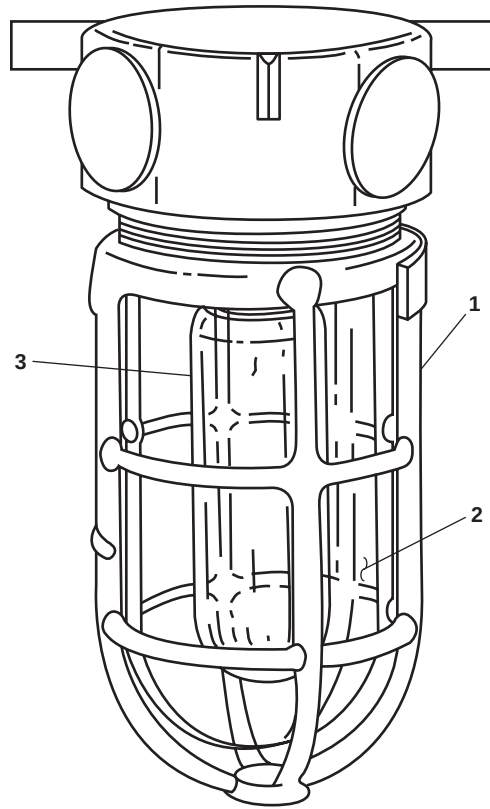

Figure 1. Junction Box Lighting
1. Remove the guard (figure 1, item 1) from the fixture.
2. Remove the globe (figure 1, item 2) from the fixture.
3. Remove the lamp (figure 1, item 3) from the lamp socket.
1. Install the lamp (figure 1, item 3) in the lamp socket hand tight.
2. Install the globe (figure 1, item 2) in the fixture hand tight.
3. Install the guard (figure 1, item 1) in the fixture hand tight.